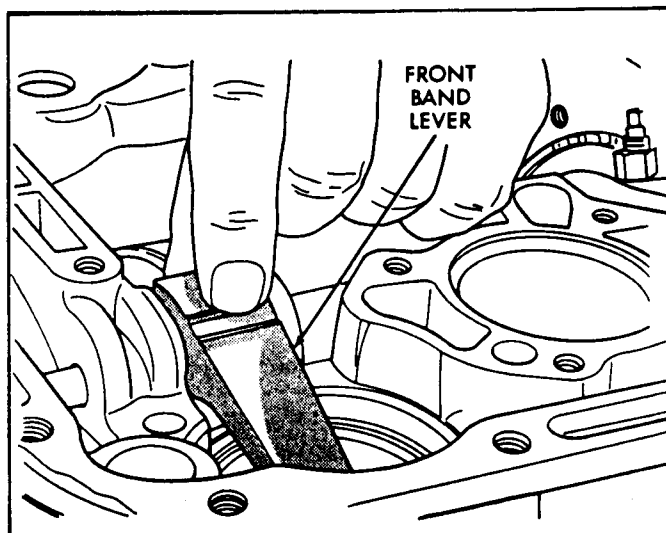

Figure 17
29. Remove front band lever, as shown in Figure 17.